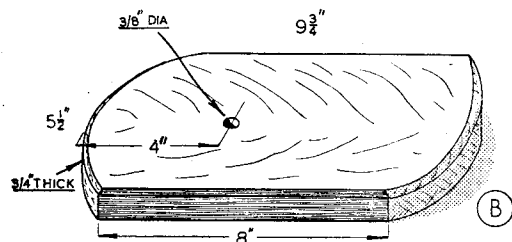

Fig. 6. The wooden sole
This should be made of the same kind of wood and is finished to the shape illustrated in Fig. 6. Both this part and the baseboard are drilled to pass the ⅜ in. dia. clamp-bolt (G) that locks the sole in position after the camera has been aligned on the object.